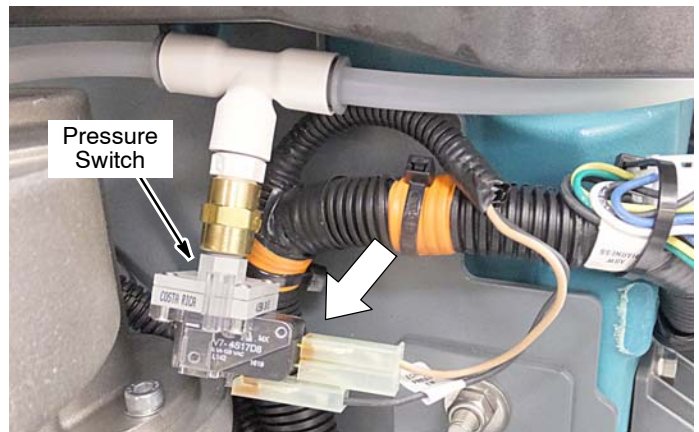

Fig. 34
- Locate the factory installed pressure switch cable-tied to the machine harness (Figure 34). Cut the cable-tie and plug the connector into the pressure switch as shown. Secure the pressure switch with a cable-tie.